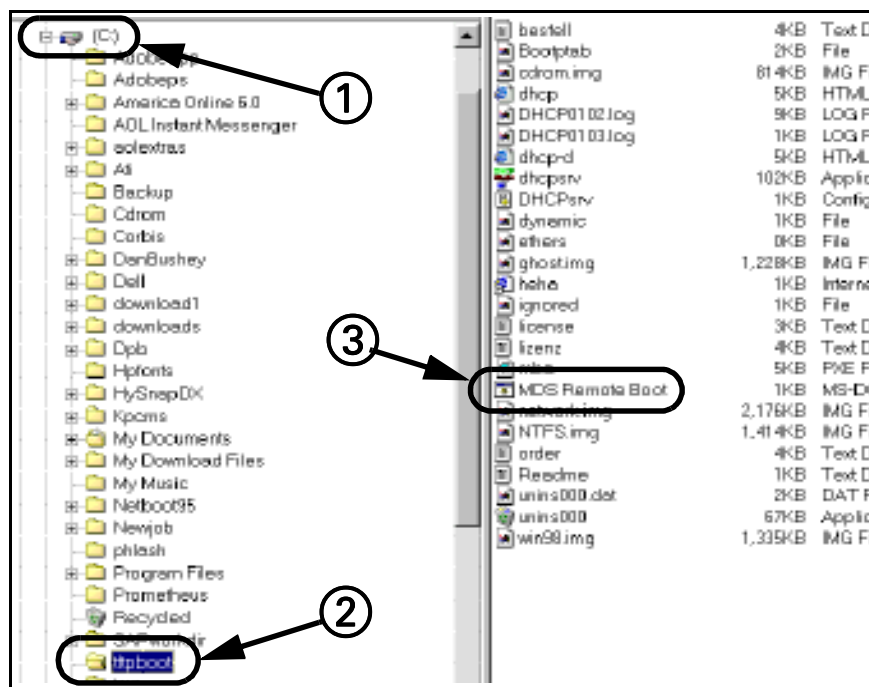

Figure 3-12 Windows Explorer
2. Double-click on C drive icon (① in Figure 3-12) in left pane of window.
3. Click on *tftpboot* folder (② in Figure 3-12) in left pane.
4. Double-click on *MDS Remote Boot* icon (③ in Figure 3-12) in right pane.